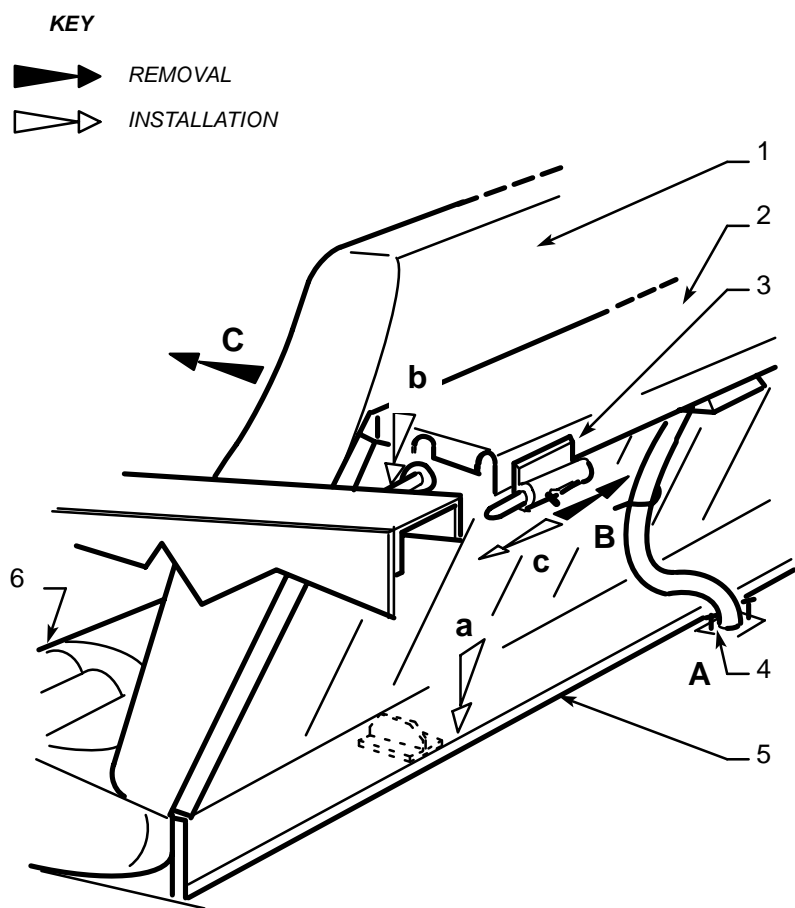

Figure 6.1 – REMOVAL AND INSTALLATION OF REAR BENCH OR,
To remove rear bench or seats : See Figure 6.1 (A, B, C)
*To reinstall rear bench or, Post-MOD.151, rear seats – see Figure 6.1 (a, b, c) reverse removal instructions.*